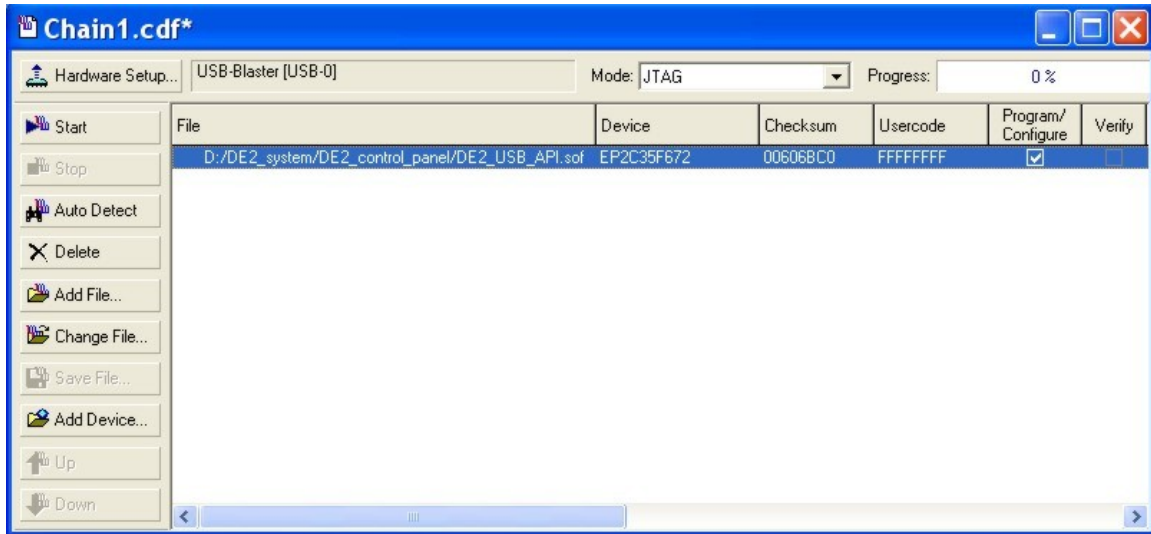

Figure 3.1. Quartus II Programmer window.
4. Select **Tools > Programmer** to reach the window in Figure 3.1. Click on **Add File** and in the pop-up window that appears select the *DE1_USB_API.sof* file. Next, click on the **Program/Configure** box which results in the image displayed in the figure. Now, click **Start** to download the configuration file into the FPGA.